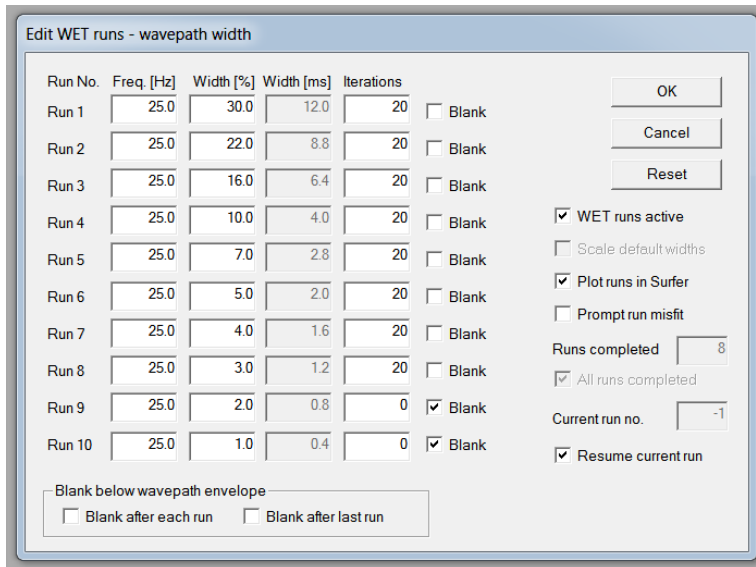

Fig. 12 : multirun WET settings (WET Tomo|Interactive WET tomography|Iterate button)
- Edit other fields in *Edit WET runs dialog* as in Fig. 12 and click *OK* button